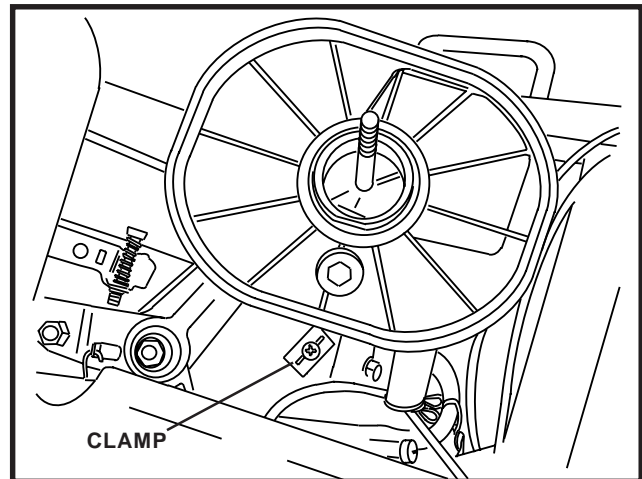

FIGURE 5
- Remove air cleaner and double wire clamp from engine. Figure 5.